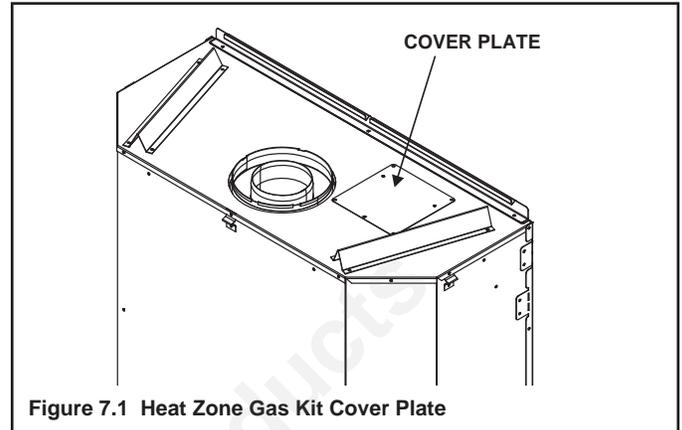

Figure 7.1 Heat Zone Gas Kit Cover Plate
- Remove the cover plate from the top of the appliance and discard it (see Figure 7.1).